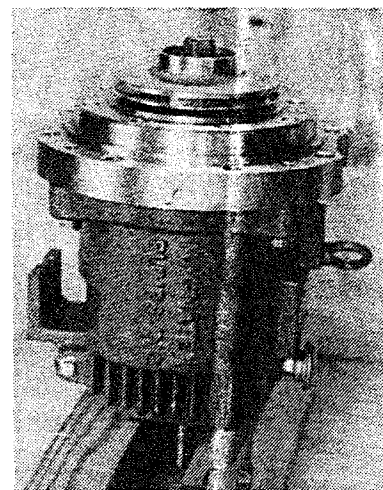

Figure 1
4. Set the bearing housing so the motor shaft end is down. Brace the pump by positioning the shaft between supports for direct support to the bearing housing [Fig. 1]. Remove the gasket (Item 80).